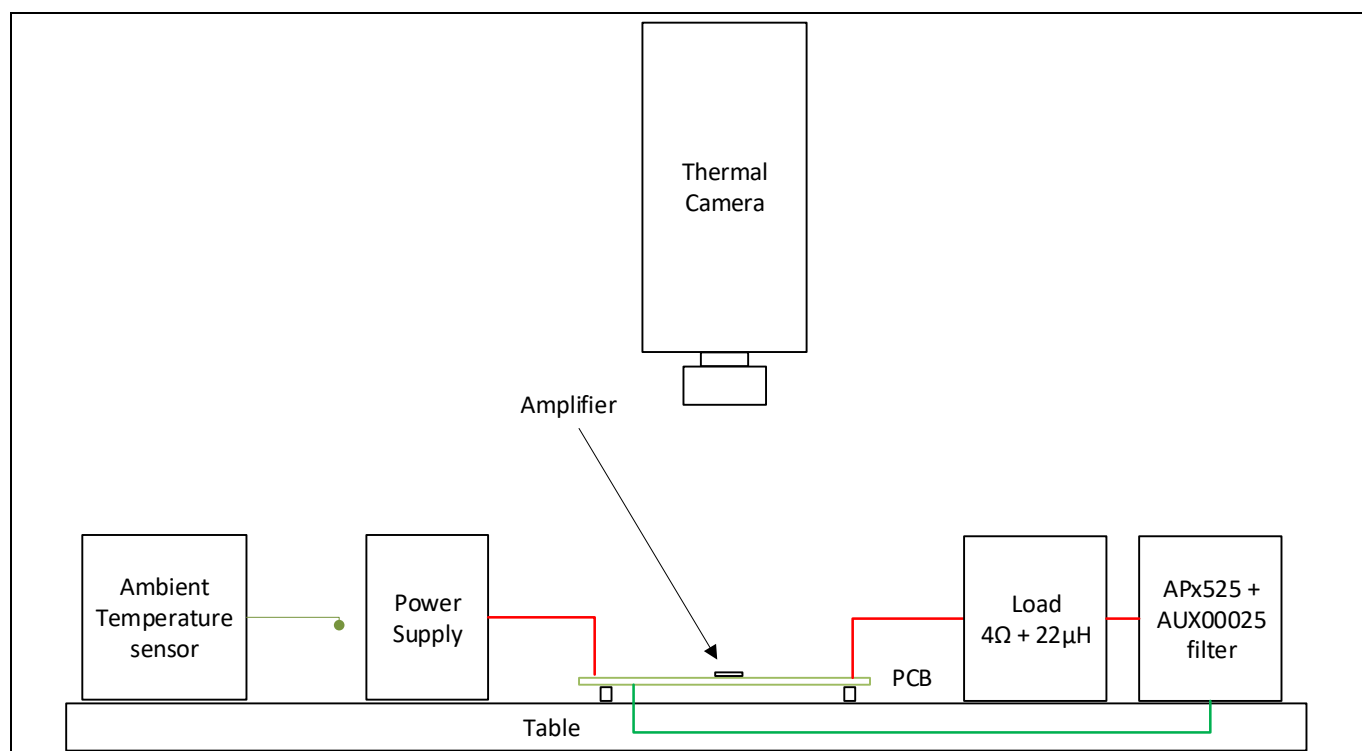

Figure 5 Thermal resistance measurement set-up
- Place a thermal camera above the amplifier to measure the case temperature. The amplifier case is made of black plastic and the emissivity of the camera is set to 0.95 – see Figure 5.
- The supply voltage PVDD is measured with a voltmeter with probes connected as close to the input pins of the amplifier as possible (not shown in Figure 5).
- The input current (PVDD) is measured with an ammeter in series with the power supply (not shown in Figure 5).